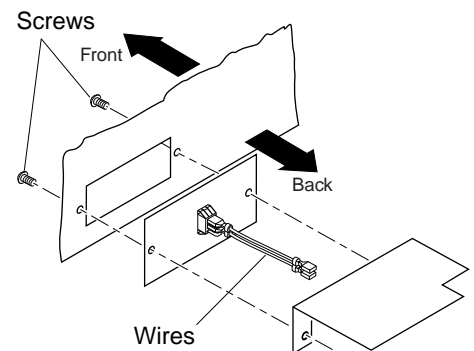

Figure 16 - Switch Plate and Wiring Harness (Switch Plate and Orientation May Vary Depending On Model)
3. Remove switch plate (see Figure 16). Discard after removing.